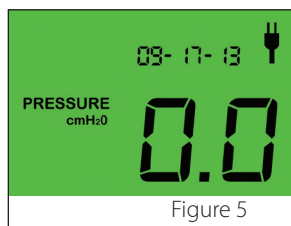

Figure 5
5. After about 10 seconds, the **Z1** will enter standby mode. The display will read 0.0. (Figure 5)